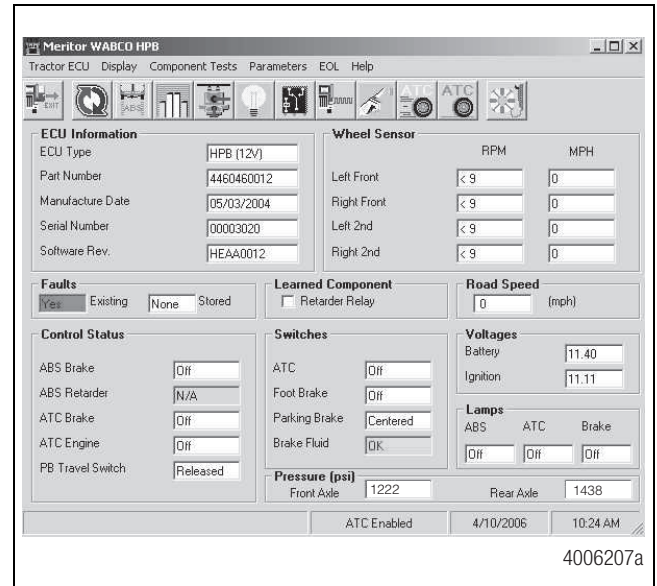

Figure 6
9. With pressure on the system, reconnect the batteries. After reconnecting the batteries, turn the ignition on. Connect TOOLBOX™ Software to the vehicle. Use this software to verify pressure is building correctly. Figure 6.